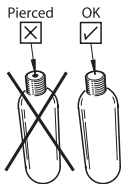

Fig. 1c
- 2) Unscrew and remove the CO₂ gas cylinder from the inflator and inspect its small end. If it is pierced, replace it (Fig. 1c). Make sure the CO₂ cylinder is screwed hand-tight into the inflator. Failure to do so may cause the PFD to not inflate.
- 1) Unscrew and inspect the CO2 cylinder. If used or damaged, discard the CO2 cylinder (Fig 1c).